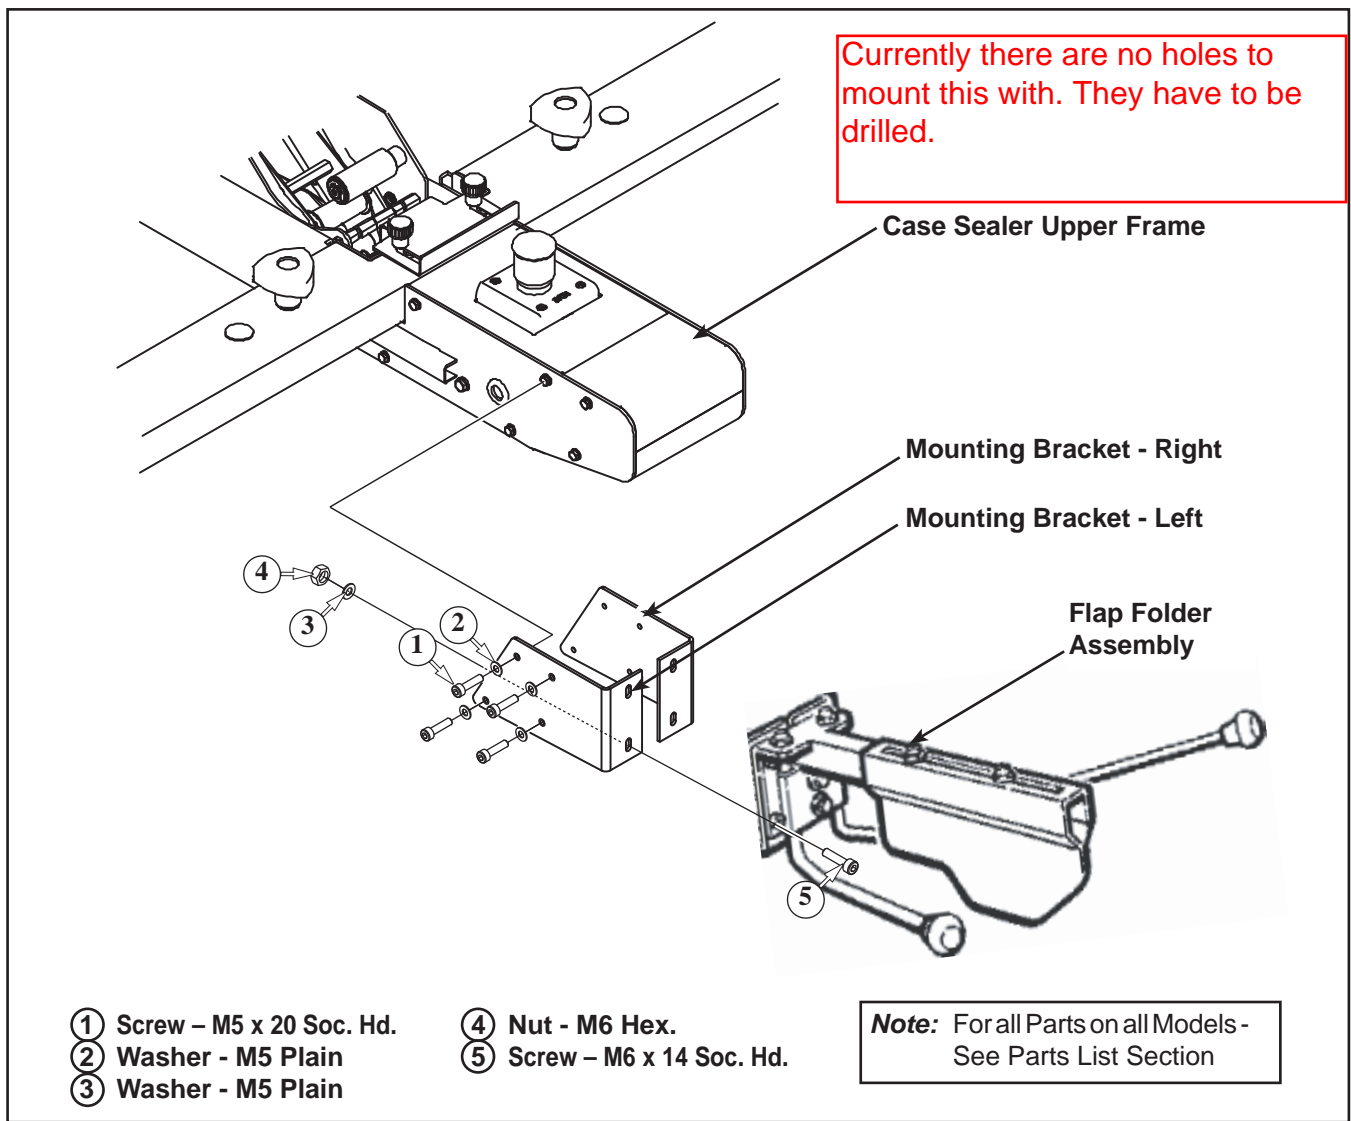

Figure 8 Installing Flap Folder on 8000a Case Sealer
Installing Flap Folder on 8000a Case Sealer – Figure 8
3. Using screws and plain washers indicated below, attach mounting brackets/flap folder to case sealer upper frame (**Figure 8**).